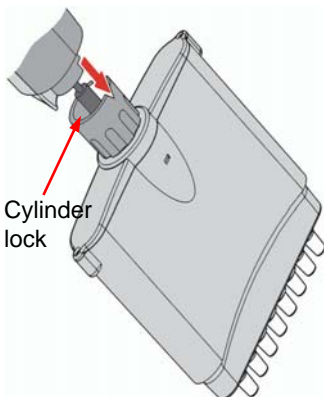

Figure 12: Push the metal cylinder lock downward until you hear a click sound.
4. Lay the Denville XLE electronic pipette down on a flat surface. Push the metal cylinder lock downward until you hear a click sound as shown in Figure 12.